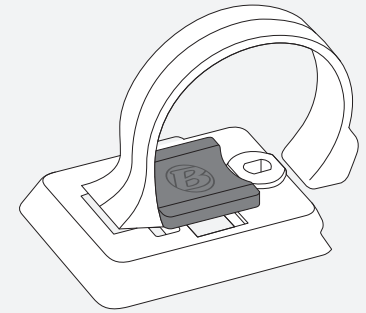

Figure 23. Pad Inserted in Computer Base.
4. Insert the rubber pad with logo into the back of the base (Figure 23).